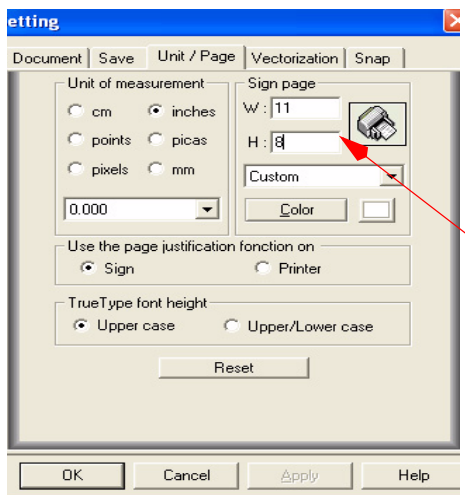

Figure 30
- 3 Change the page size to 11x8. See figure 30.